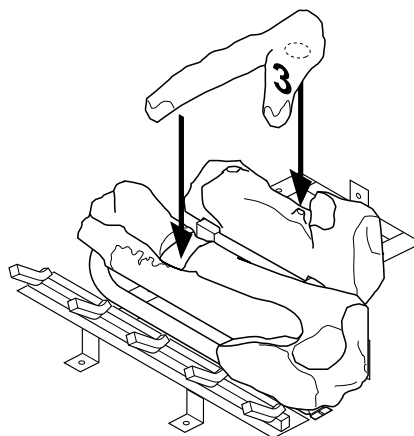

Figure 55 - Installing Log No. 3
3. Place log #3 (crossover log) onto the rear and front logs. Make sure it is seated properly into the notch on the front log and over the raised triangular portion of the rear log as shown in Figure 55.